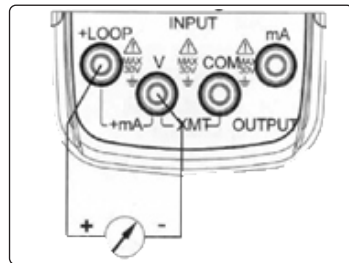

Figure 5-1
1) Insert one end of the test leads to the + mA - output jack (OUTPUT) of the Instrument and connect the other end with the input of the user's Instrument as shown in Figure 5-1:
1) Connect to the Instrument as shown in Figure 5-1;
3) Press the key (25%/RAMP) and th symbols 'r' and '▲' will appear.
6) Reprress the key (25%/RAMP) so as to exit the step current output.
3) Press the key (100%/START) and the symbols 'r' '▲' '0' 'FS' will appear in the display;
- 5) Reprress the key (100%/START) so as to exit the step current output.
- 1) Connect as shown in Figure5-1;
- 4) Reprress the key (25%/RAMP) again so as to change the type of the output ramp, which finds itself in the lower left of the LCD. The type appears with 'Λ S' 'Λ F'. in proper order. These symbols denote a low speed ramp and a high speed ramp respectively. The former is set to a cycle up to 60S and the latter is up to 30S, while the auto-stair step ramp pauses 5 seconds at each step;
- 5) Press the key (100%/START) to start the output of the set waveform when the symbol 'ON' appears, Now reprress the key (100%/START) again and the output will pause on a current value and the symbol 'OFF' will appear. Then press the same key again and output will continue to do the set steps from the pause value. When the symbol 'OFF' appears, press any one of the keys (▲) , (▼) , (◀) , (▶) so as to bring the output back to the 0% Then the value of 4mA appears in the display.